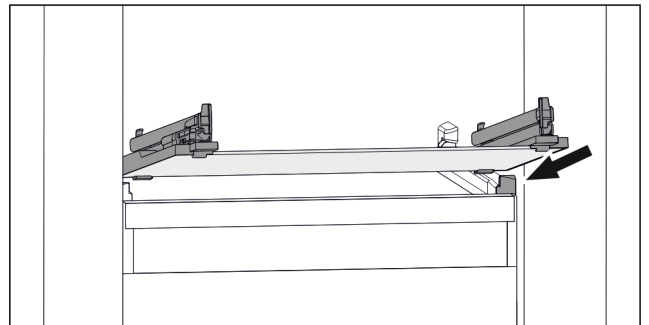

Fig. 152 Example illustration of glass shelf
- ▶ Position glass shelf at an angle behind the stoppers. (see Fig. 152)